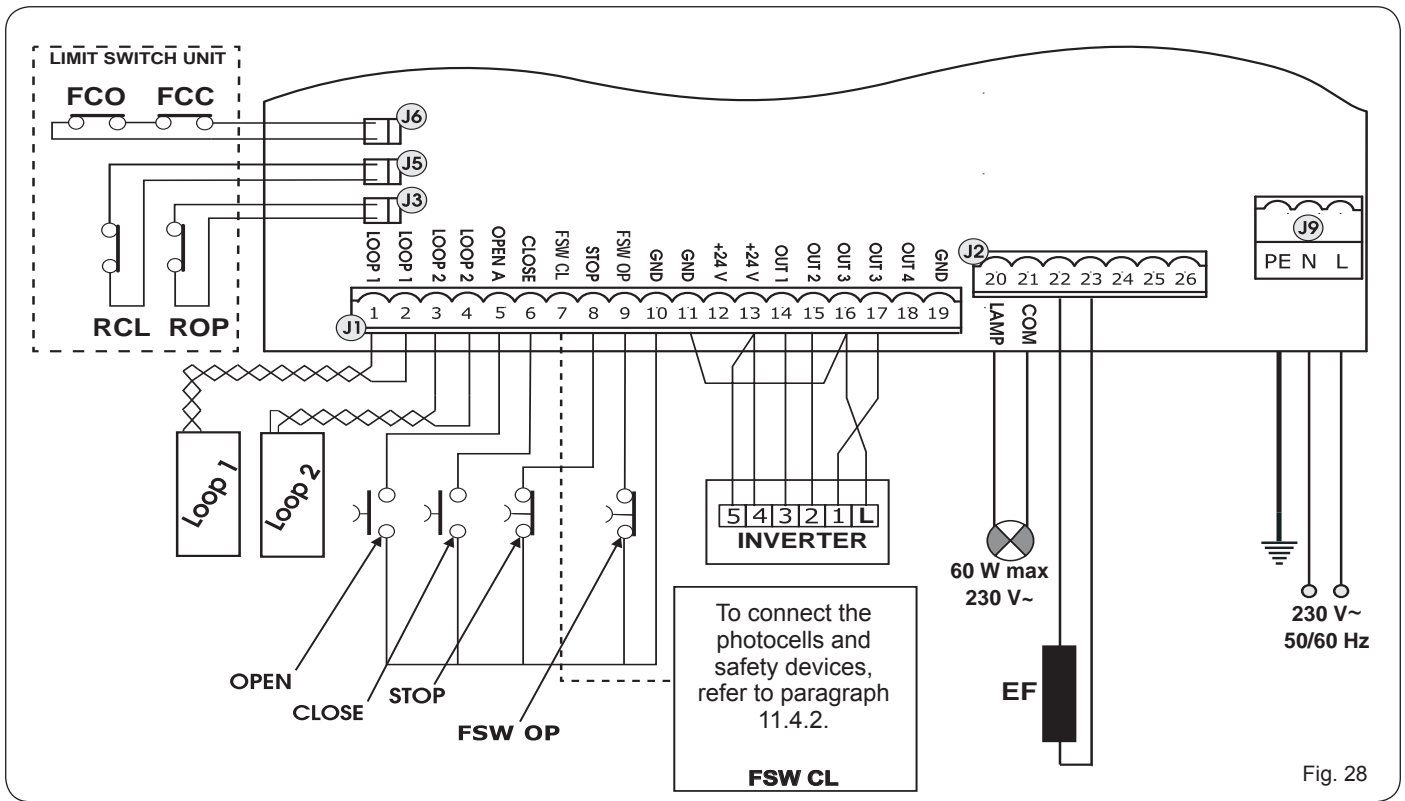

Fig. 28
- Connect the earthing cable to the corresponding terminal on connector J9 of the equipment (see fig.28).
11.4.1 TERMINAL BOARD J1 - ACCESSORIES (FIG. 28)
**⚠** To avoid compromising correct system operation, do not exceed the power indicated in fig. 28.
**11.4.4 TERMINAL BOARD J2, FLASHING LAMP (FIG.28) LAMP (LAMP-COM):** Flashing lamp output.
**11.4.6 Connectors J3, J5-rapid connection opening and closing limit switches (FIG.28)**